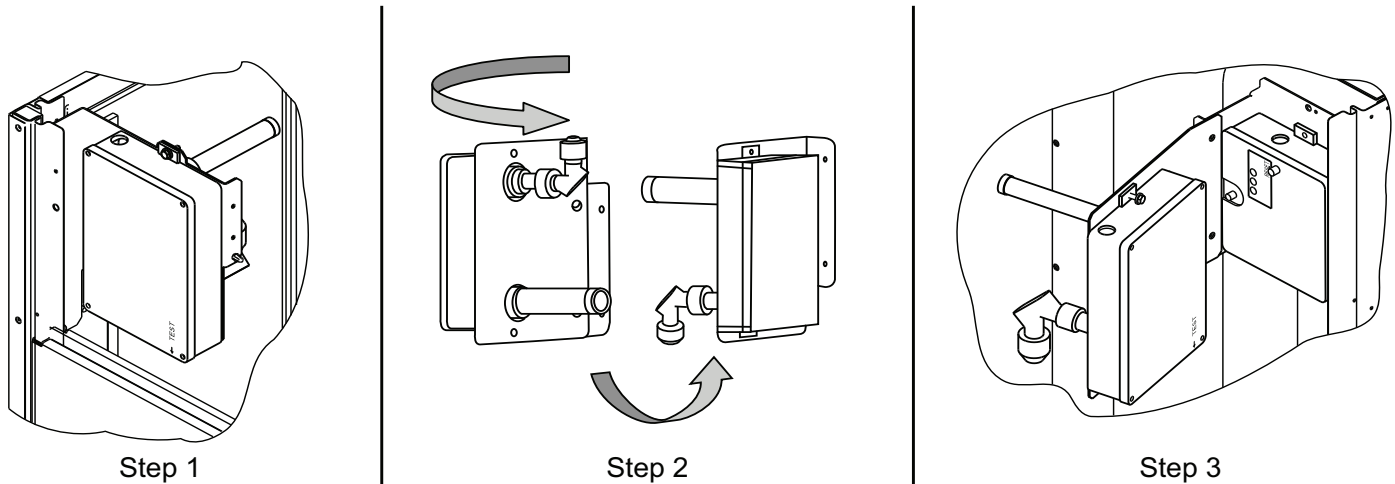

Fig. 65 — Completing Installation of Return Air Smoke Sensor
1. Unscrew the two screws holding the return-air smoke detector assembly. See Fig. 65, Step 1. Save the screws.
2. Turn the assembly 90 degrees and then rotate end to end. Make sure that the elbow fitting is pointing down. See Fig. 65, Step 2.
3. Screw the sensor and detector plate into its operating position using screws from Step 1. See Fig. 65, Step 3.